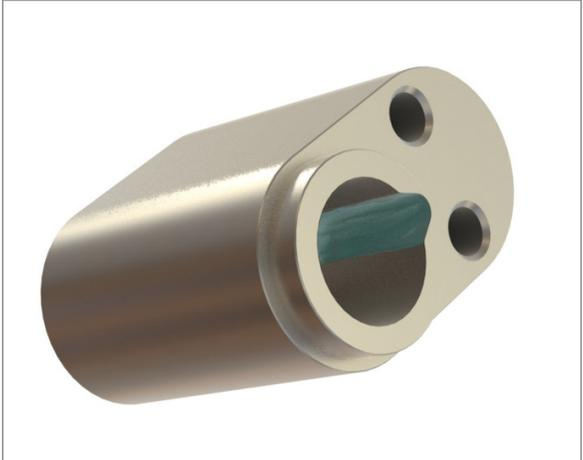

Figure 6: Apply Grease to Pin Pocket
9. Apply a thin layer of marine grease (**as thin as possible, but not thin enough to see through**) to the lock pin pocket of the shell. See Figure 6.